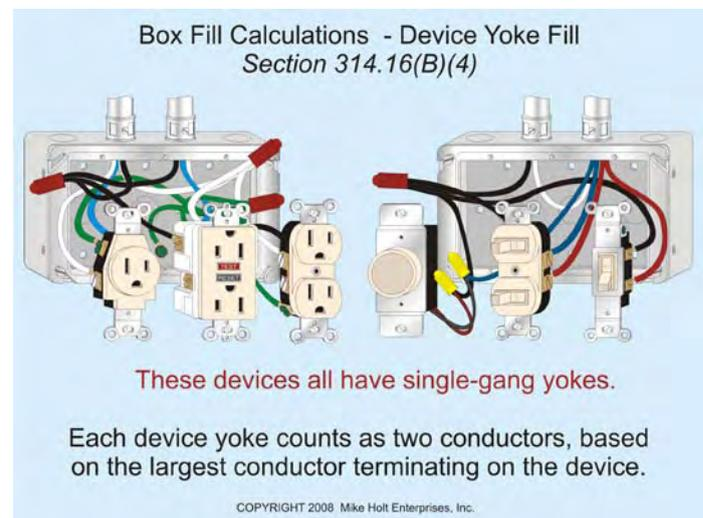

Figure 314-8
(4) Device Yoke Volume. Each single gang device yoke (regardless of the ampere rating of the device) counts as two conductor volumes, based on the largest conductor that terminates on the device in accordance with Table 314.16(B). Figure 314-8